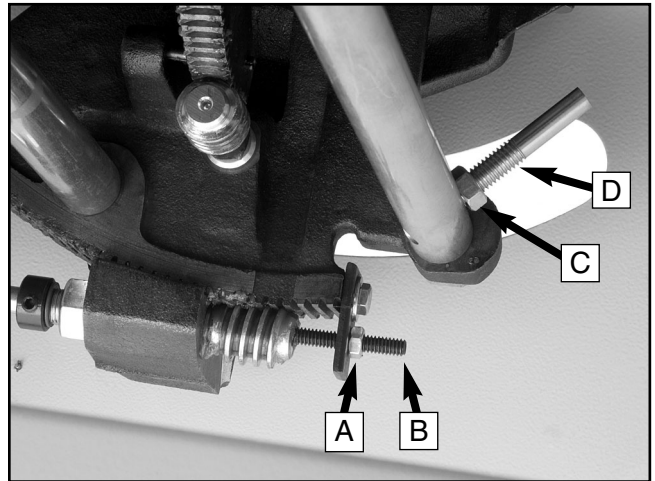

Figure 59. 90° and 45° stop bolt adjustments.
6. If a gap exists at either the top or bottom of the square, loosen the lock nut (A) and adjustment bolt (B) shown in **Figure 59**.
11. If variations exist, loosen the lock nut (C) and adjust the stop bolt (D) (**Figure 59**) until the blade and square match.